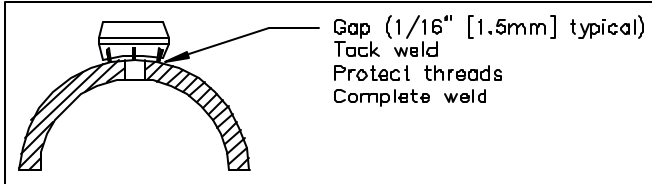

Figure 3. Weld Gap
- Using the appropriate weld gap (1/16" [1.5mm] typical), tack weld the threadolet into position (Figure 3).